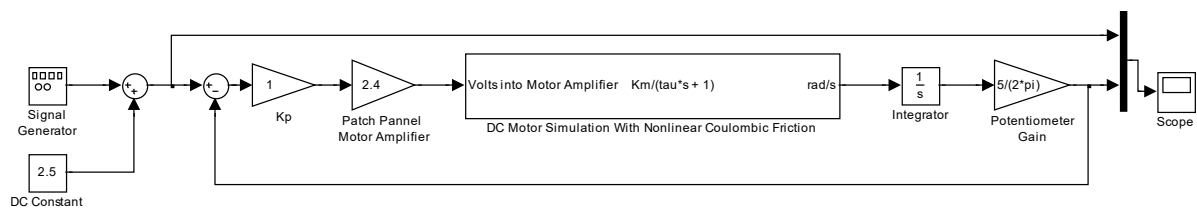

Figure 8: Proportional Gain Control Simulink Block Diagram
- Connect the blocks as shown in Figure 8.